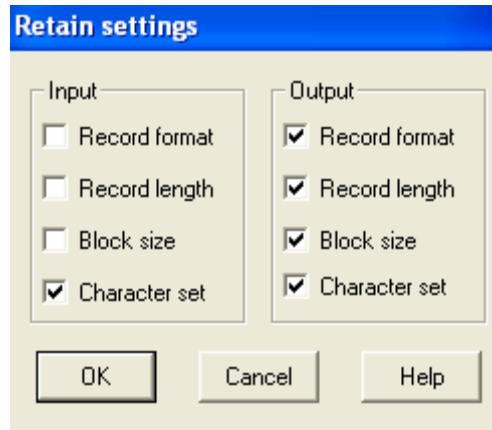

Figure 33: Retain Settings Dialog Box
- If the Treat Null as Text box is checked, as described in Section 20.2, NULL (00) bytes will be treated either as text (ASCII/EBCDIC) or binary;
- APS fills in default input and output settings based on the input tape and the output tape labeling format. The user can override these settings on a file-by-file basis by keying in new settings before copying each file. Alternatively, the user can specify default settings for all subsequent files by pressing the Retain button to display the Retain Settings dialog box. This box is shown in Figure 33: Retain Settings Dialog Box.